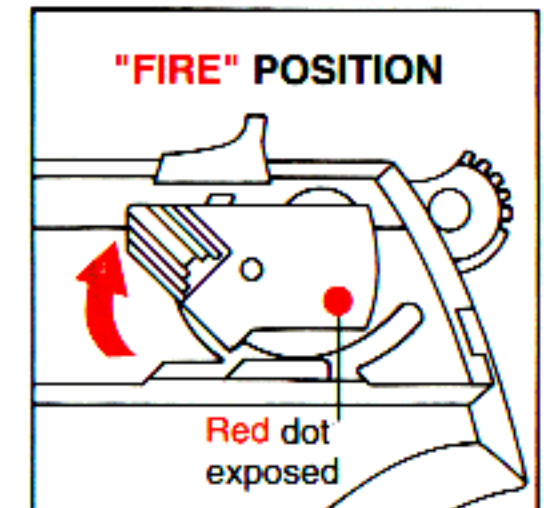

FIGURE 2
8. If the pistol is to be fired immediately, the manual safety can be rotated upward to its “fire” position (see Figure 2, p. 5). The firing pin is still blocked at all times by the internal firing pin block unless the trigger is pulled all the way to the rear.